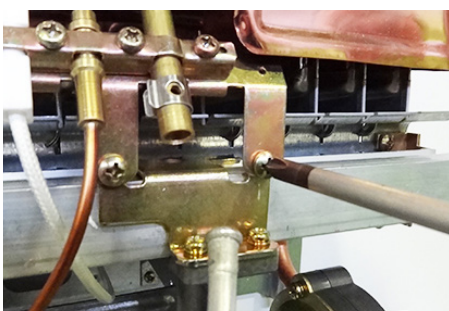

Fig. 11
- Remove the screws that hold the pilot flame in position (Fig. 11)